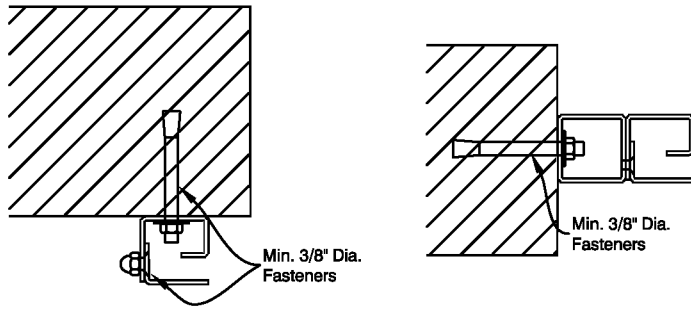
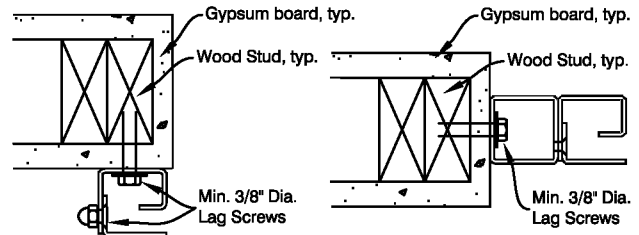

Fig. 3
Fig. 7
! IMPORTANT ! Determine your mounting configuration to ensure compliance with fig. 3 through fig. 7, for proper mounting conditions.
d. When fastening to a double(2) wood stud jamb, each stud is to be a min. 2"x 4". Fasten using a min. of 3/8" dia lag screws, as shown in Fig. 7.